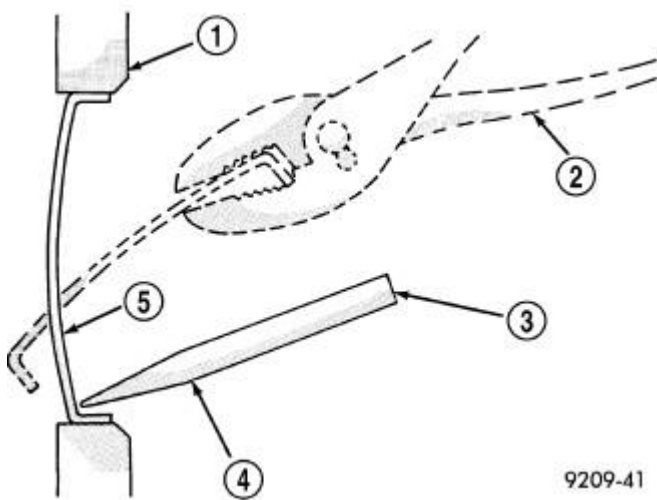

Fig. 8: Core Hole Plug Removal
Using a blunt tool such as a drift (3) and a hammer, strike the bottom edge of the cup plug (5). With the cup plug rotated, grasp firmly with pliers (2) or other suitable tool and remove plug (5). Refer to **Fig. 8**.